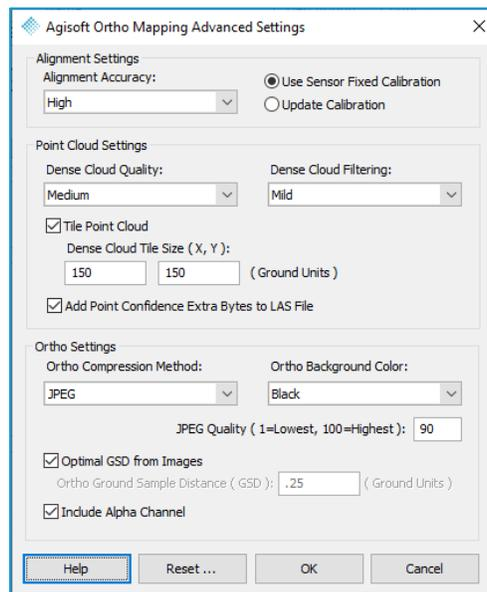

Figure 113 - Agisoft Ortho Mapping Advanced Settings dialog
- g) **Advanced Settings** – Opens the Agisoft Ortho Mapping Advanced Settings dialog (Figure 113)
The most commonly configurable Agisoft Ortho Mapping settings are configured on the Agisoft Ortho Mapping Advanced Settings dialog (Figure 113). The defaults are the recommended settings, though users may wish to modify for their personal preferences.